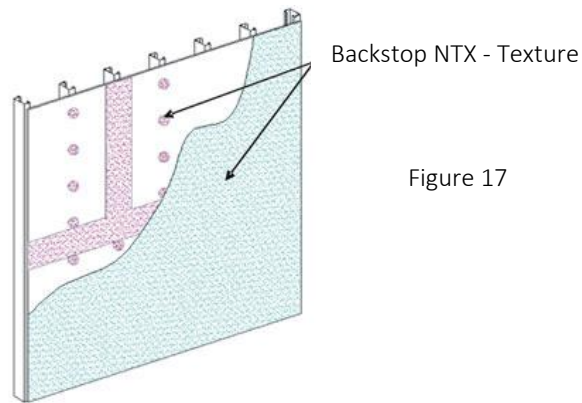

Figure 17
- a. Use a coarse, open-cell foam roller cover with a 3/8 in (9.5 mm) foam nap (FoamPRO #58 roller). Apply a uniform, continuous film of Backstop NTX – Texture over the entire surface of the sheathing, concrete or masonry, including the previously treated areas – Figure 17.